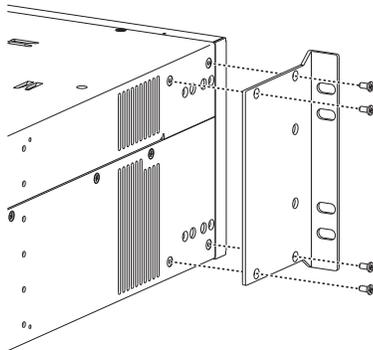

FIG. 8 Attach rack ears to sides of enclosure
1. Attach the rack ears per FIG. 8.